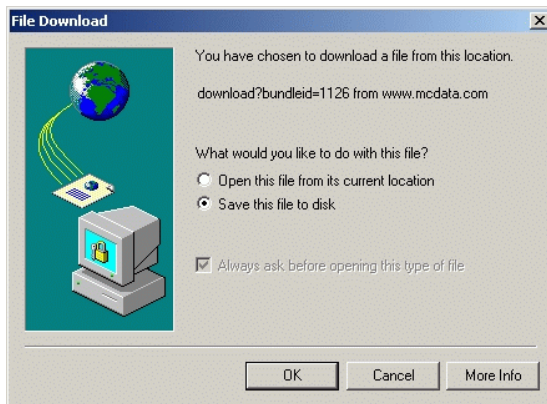

Figure 4-59 File Download Dialog Box
- h. In the *Action* column adjacent to the approved request for the firmware version, click *Download*. The *File Download* dialog box displays (Figure 4-59).